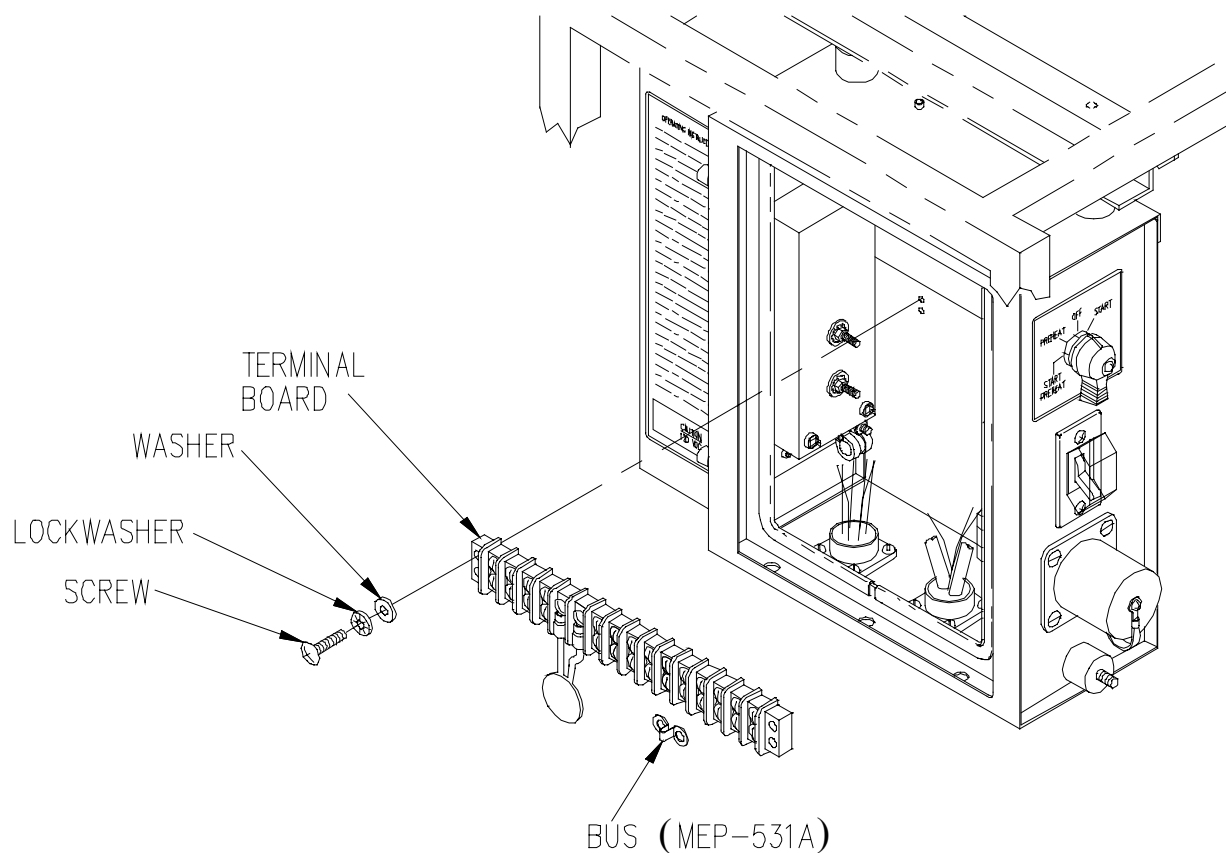

Figure 4-38. Terminal Board
- (1) Shut down generator set.
- (2) Release instrument panel by turning fastener, open instrument panel slowly.
- (3) If replacing terminal board remove and retain discharge varistor, refer to paragraph 4.36.c.
- (4) Tag and disconnect electrical leads from terminal board (Figure 4-38).
- (5) Tag and remove bus (MEP-531A) from terminal board.
- (6) Remove screws, lockwashers, washers, and terminal board from control panel.
- (1) Install terminal board (Figure 4-38) in control panel with washers, lockwashers, and screws.
- (2) Connect bus (MEP-531A) and electrical leads to terminal board. Remove tags.
- (3) If removed, install discharge varistor, refer to paragraph 4.36.d.
- (4) Close and secure instrument panel.